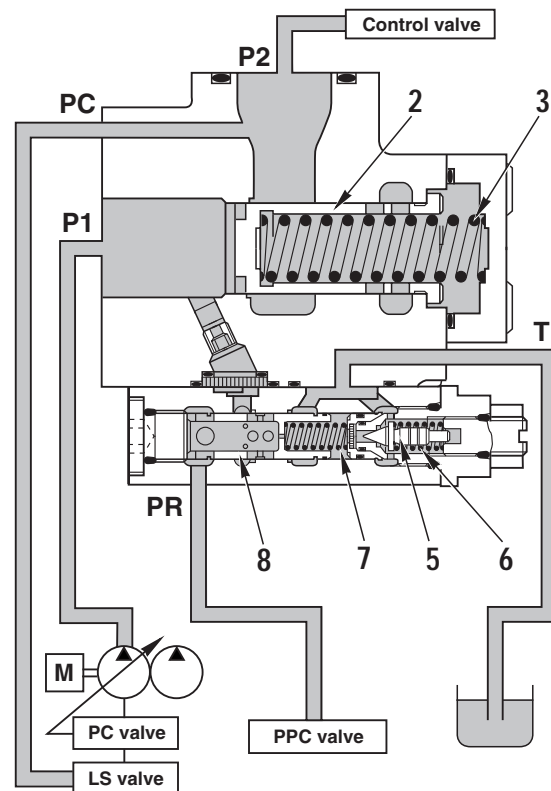

Fig. 1
- Poppet (5) is pushed against the seat by spring (6), and the passage from Port **PR** → **T** is closed.
- Valve (8) is pushed to the left by spring (7), and the passage from Port **P1** → **PR** is open.
- Valve (2) is pushed to the left by spring (3), so the passage between Port **P1** → **P2** is closed.
- (See Fig. 1)